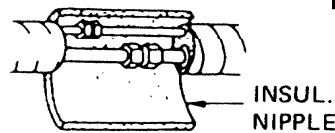

Fig. 6
- (c) After performing a leak test on the connecting part, insulate it with an insulation and finish with a vinyl masking tape over it. Fig. 6